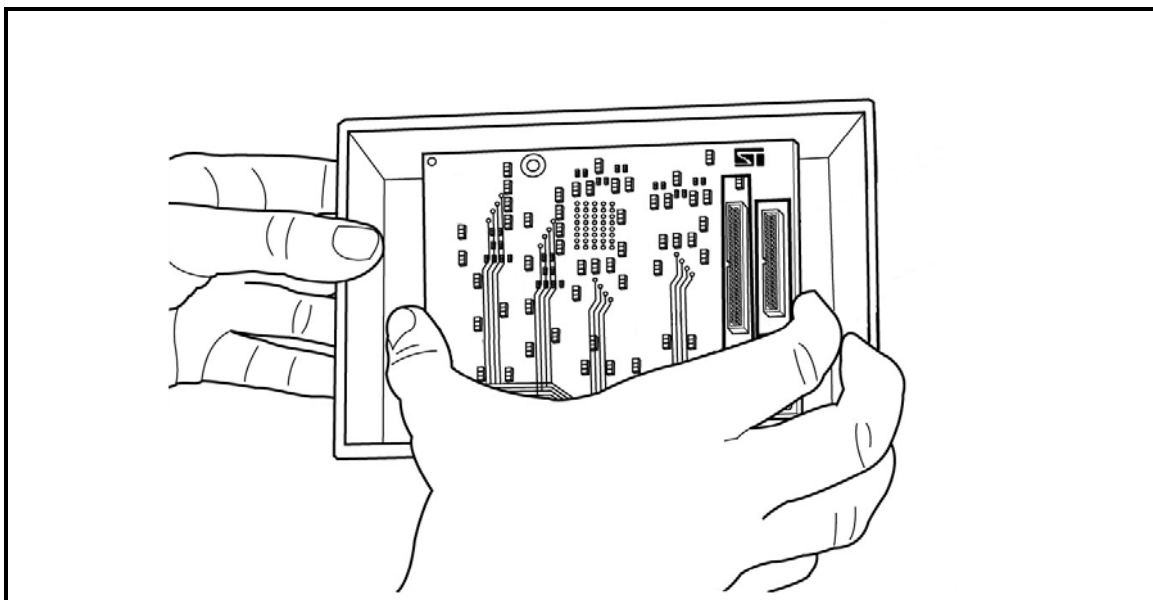

Figure 10: Removing the TEB
- 3 Remove the target emulation board that is currently in the probe by gripping the edge of the board and pulling it straight out (see Figure 10 on page 22). Store it somewhere safe and static-free for future use.
- 6 Once the TEB is firmly in place, refasten the two screws that fix the TEB to the DEB, as shown in Figure 10. Take care not to over-tighten the screws.